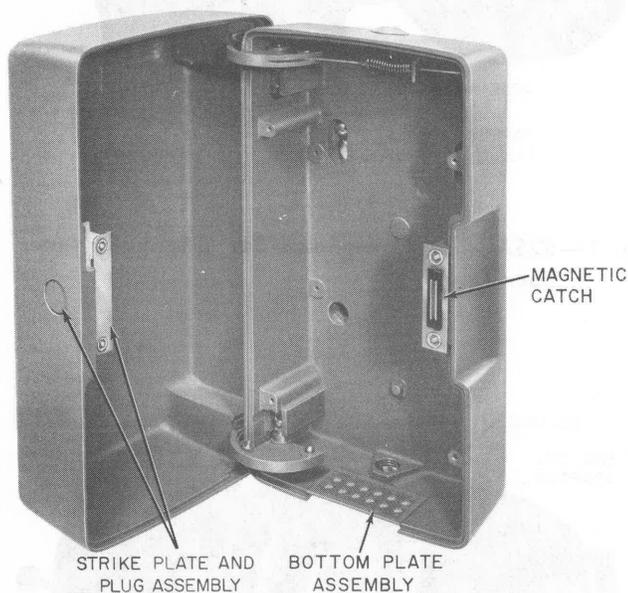

Fig. 3—526A Housing Assembly
2.08 526A Housing Assembly (Fig. 3 and 4).